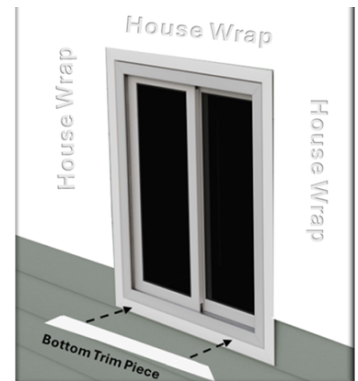

Fig. 4
4. Install the bottom trim last after installation of Everlast siding panel (Fig. 4).